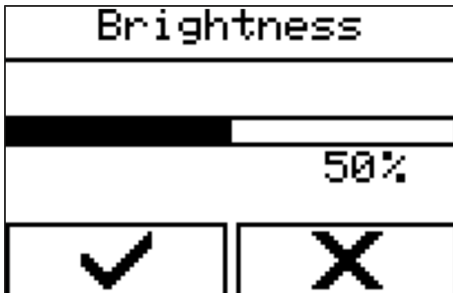

Fig. 57: Selecting a menu
1. ➤ Select the menu via 'Hand switch' → 'Brightness' (Fig. 57).